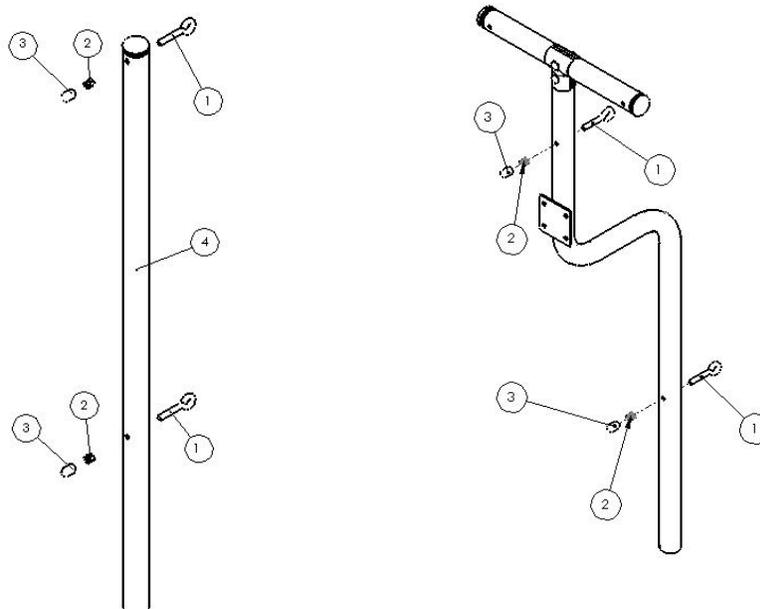

FIGURE 11
- 2) Install the eyebolts into the basketball frame and the volleyball post assembly as shown in Figure 11.